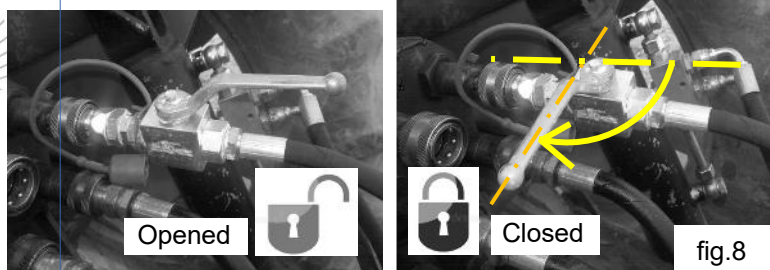

fig.8
- tractor hydraulic outlet - close the tap on the hydraulic circuit of the hay rake (fig. 8).